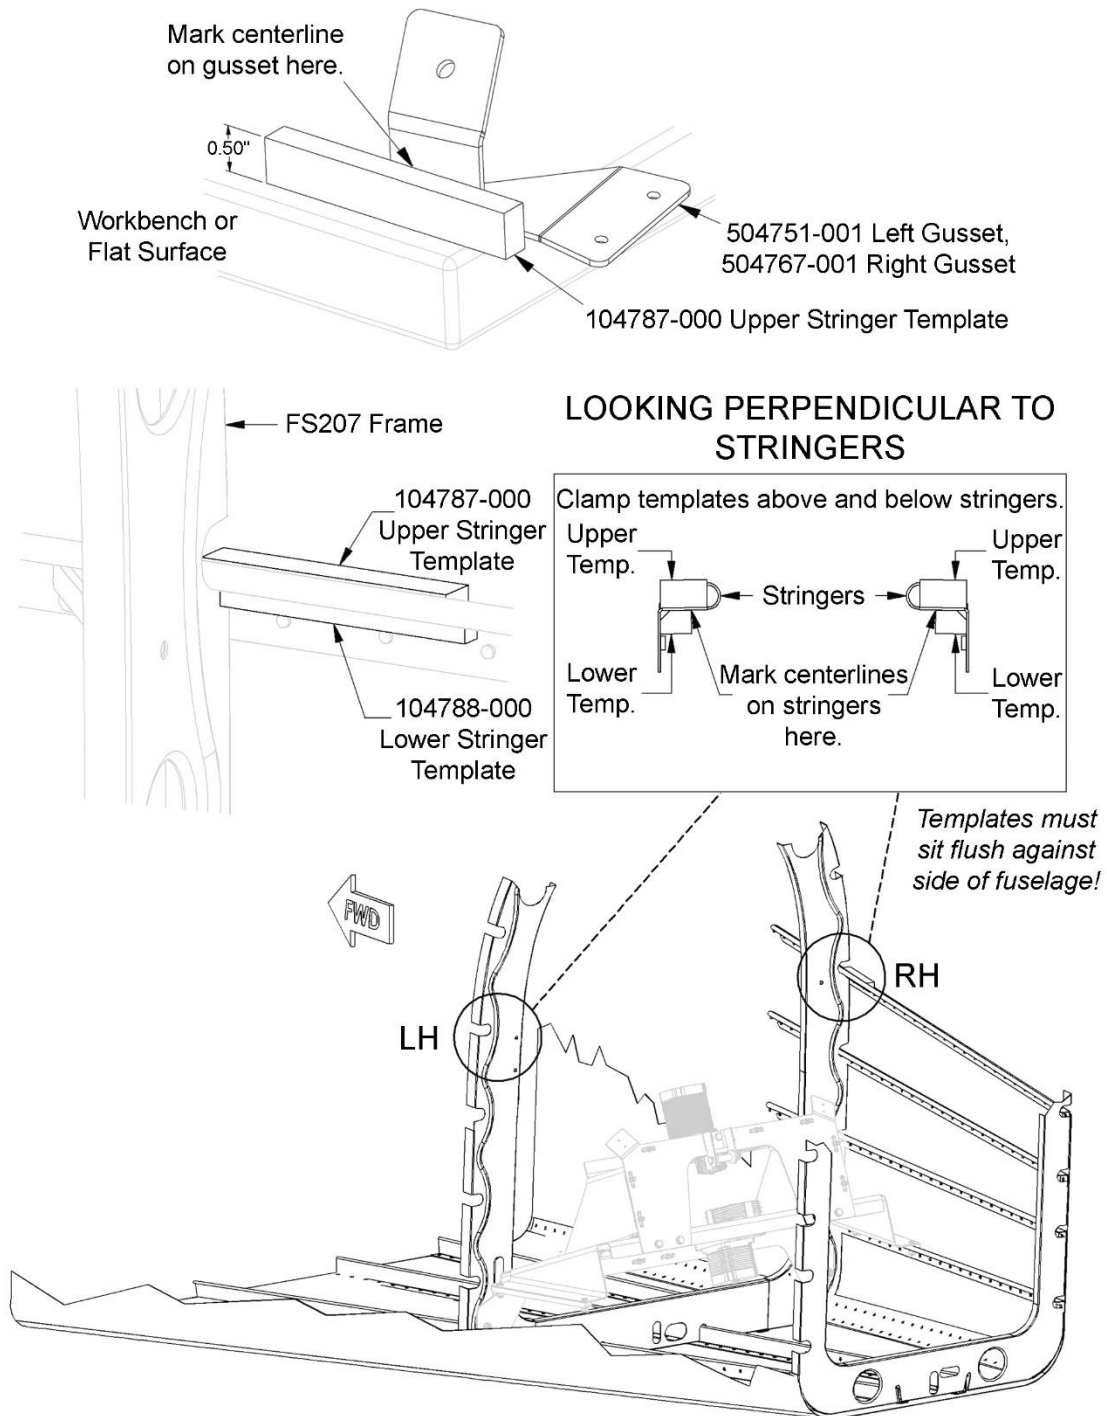

Figure 11: Marking Centerlines on Gussets and Stringers
21. Using provided templates, mark centerlines on gussets and stringers, as shown in Figure 11.